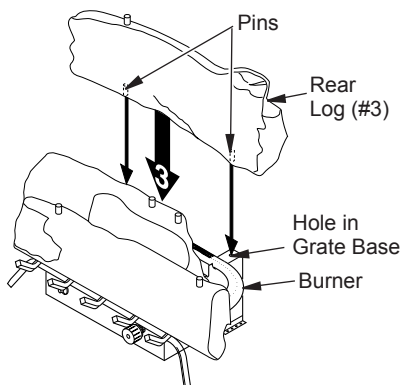

Figure 21 - Installing Rear Log #3 (CCL3924PTA/NTA Shown)
3. Locate pins on bottom of back log (#3). Slide these pins into holes in grate base behind burner (see Figure 21).